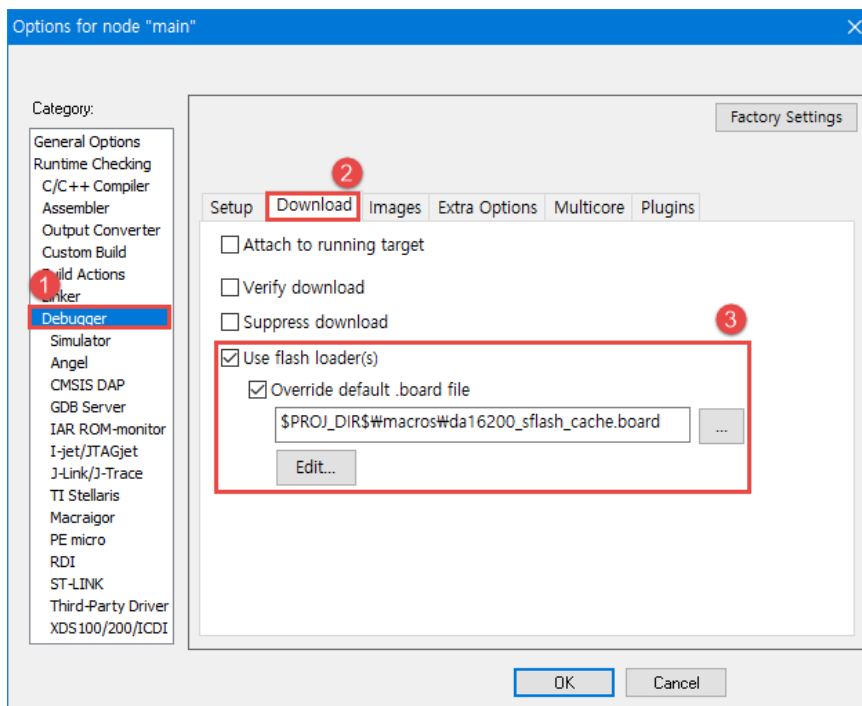

**Figure 29: Debugger Setup Setting**
- In the **Options for node "main"** window, in the **Category** list, select **Debugger** (1). See Figure 29.
- Select the **Setup** tab (2).
- In the **Driver** drop-down list, select **I-jet/JTAGjet** (3).
- In the **Setup macros** area (4), select the checkbox **Use macro file(s)** and set the filename to `$PROJ_DIR$\macros\da16200_asic_cache.mac`.